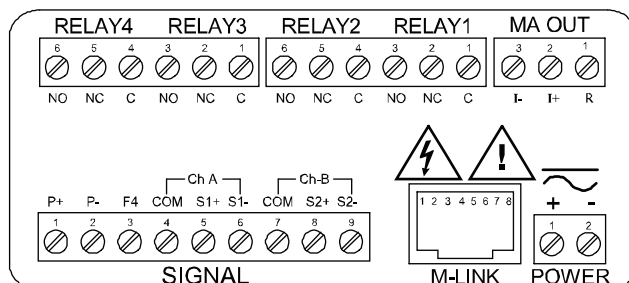

Figure 6. Connector Labeling for Fully Loaded PD6363
Isolated Transmitter Power Supply	Terminals I+ & R: 24 VDC ± 10%. May be used to power the 4-20 mA output or other devices. Refer to Figure 6 on page 12 and Figure 18 on page 15. All models rated @ 40 mA max.
Power connections are made to a two-terminal connector labeled POWER on Figure 6. The meter will operate regardless of DC polarity connection. The + and - symbols are only a suggested wiring convention.
Signal connections are made to a nine-terminal connector labeled SIGNAL on Figure 6. The COM (common) terminals are the return for certain input signals. The two COM terminals connect to the same common return, and are not isolated.
Serial communications connection is made to an RJ45 connector labeled M-LINK on Figure 6. For interfacing to the PROVu®, use the PDA1232 for RS-232 or the PDA1485 for RS-485. The same port is used for interfacing with all expansion modules (e.g. external relays, additional 4-20 mA outputs, digital I/O).
Relay connections are made to two six-terminal connectors labeled RELAY1 – RELAY4 on Figure 6. Each relay's C terminal is common only to the normally open (NO) and normally closed (NC) contacts of the corresponding relay. The relays' C terminals should not be confused with the COM (common) terminal of the INPUT SIGNAL connector.